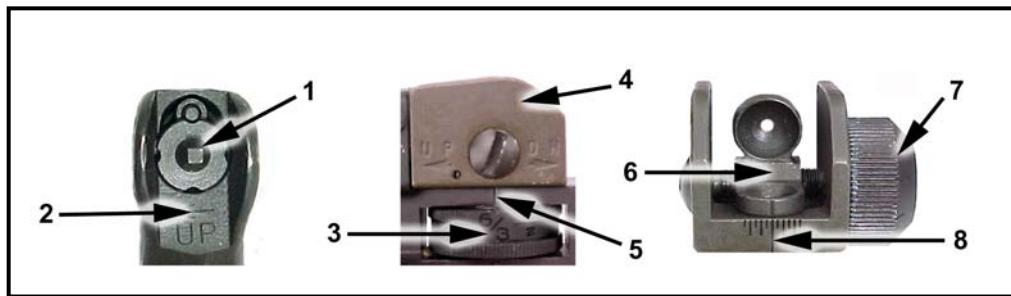

Figure 2-12. M4/M4A1 and M4 MWS mechanical zero.
(1) **Mechanically Zeroing the M4/M4A1 and M4 MWS.** Mechanically zeroing the weapon is only necessary when the weapon zero is questionable, the weapon is newly assigned to the unit, or the weapon sights have been serviced. If necessary, the soldier should mechanically zero the weapon as follows (Figure 2-12, page 2-8):